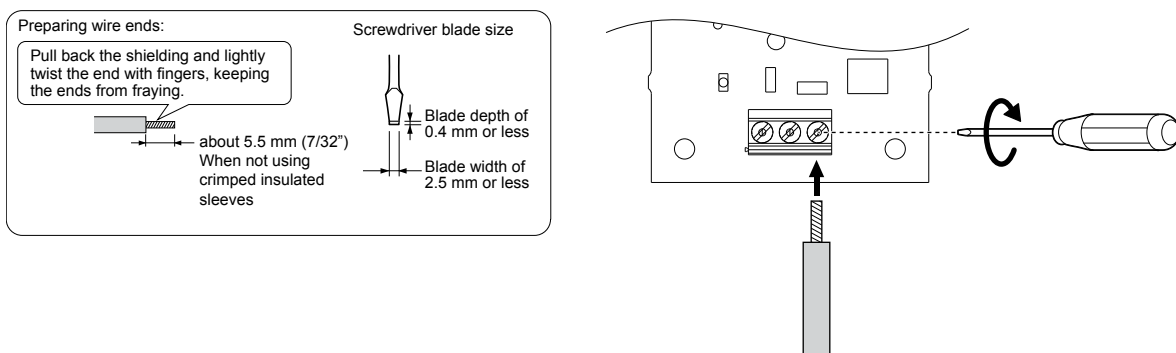

Figure i.36 Wire the Option Plug
2. Use a flat-blade screwdriver to loosen the screws on the terminal block TB1, connect wiring to the 24, 0, and FE terminals as shown in Figure i.36, then tighten the terminal screws to hold wiring in place. Refer to Table i.20 to confirm that the proper tightening torque is applied to each terminal. Take particular precaution to ensure that each wire is properly connected and wire insulation is not accidentally pinched into electrical terminals.